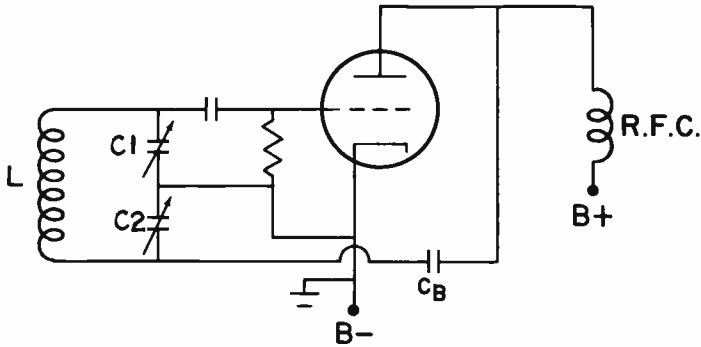
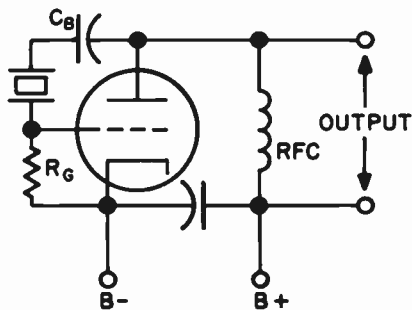

FIG. 12-9. COLPITTS OSCILLATOR.
FIG. 12-14. A BASIC PIERCE OSCILLATOR CIRCUIT.
**THE COLPITTS OSCILLATOR.** Fig. 12-9 illustrates a COLPITTS OSCILLATOR. The only difference between the Colpitts oscillator and the Hartley oscillator is that the Colpitts oscillator has a split tank capacitor, whereas the Hartley oscillator has a split tank coil. Capacitor C2 is in the plate circuit and C1 is in the grid circuit. Energy is fed back from the plate circuit to the grid circuit by capacitive coupling between capacitors C2 and C1. This type of feedback is called CAPACITIVE FEEDBACK. The amount of feedback is controlled by varying the ratio of capacitance between the two capacitors. The frequency of this oscillator can be changed by varying the amount of inductance in coil L, or by changing the total capacitance of the series combination of C1 and C2. When both capacitors are made variable, they are usually ganged.
3 Fig. 12-14 shows a crystal controlled oscillator that is in widespread use. It is known as a PIERCE oscillator. The Pierce oscillator operates in a manner similar to the Colpitts oscillator of Fig. 12-9. The crystal takes the place of the coil and the interelectrode capacitances take the place of C1 and C2.